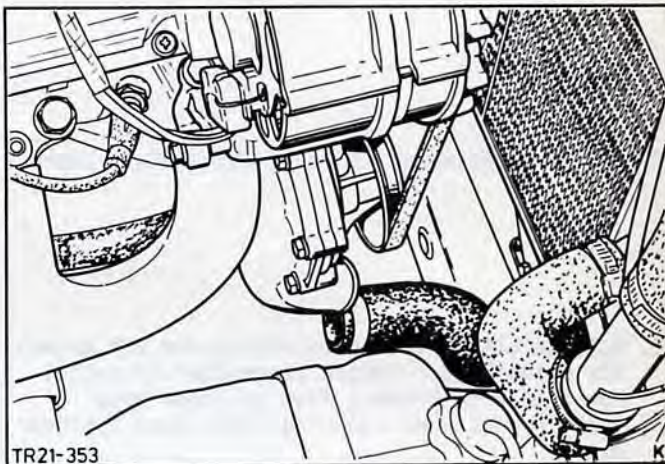

Fig.74. Bottom radiator hose detached.
3. Drain coolant into a collecting tray by detaching bottom radiator hose from water pump, Fig.74, and top hose from thermostat water connector.